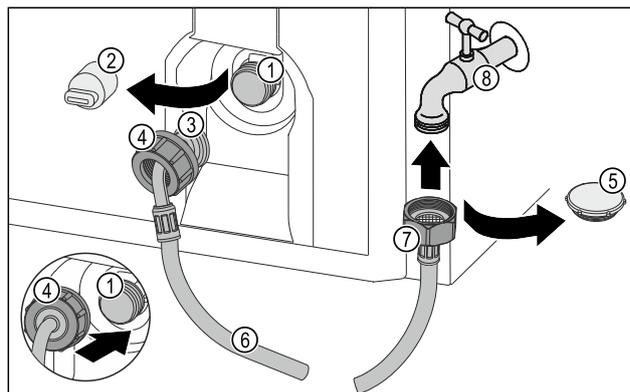

Fig. 15
- ▶ Remove the closure cap Fig. 15 (5).
- ▶ Place the straight end of the hose Fig. 15 (7) on the tap Fig. 15 (8).
- ▶ Tighten the nut at the straight end of the hose Fig. 15 (7) in a clockwise direction.